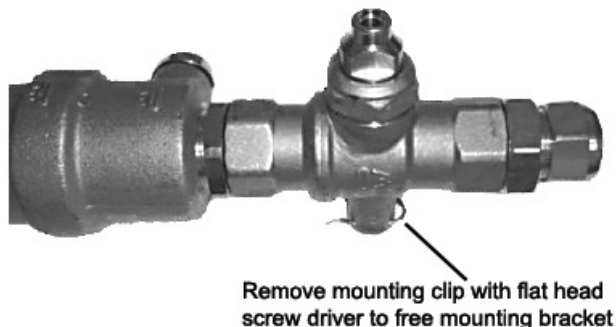

Figure 23
3. Remove the front cover (D) of the solar station.
4. Remove the retainer clips behind the isolation ball valves (J, Q) with a flat head screw driver to free the mounting plate from the station (see Figure 23).